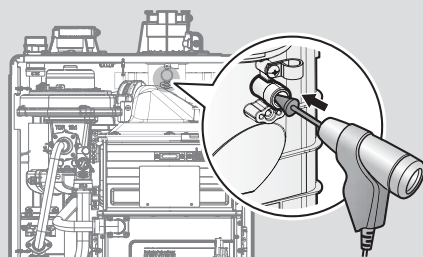

Figure 7. Insert the Analyzer
a. Loosen the screw, rotate the plate and remove the gasket to access the emissions monitoring port as shown in Figure 7.
b. Insert the analyzer into the port (Figure 7).